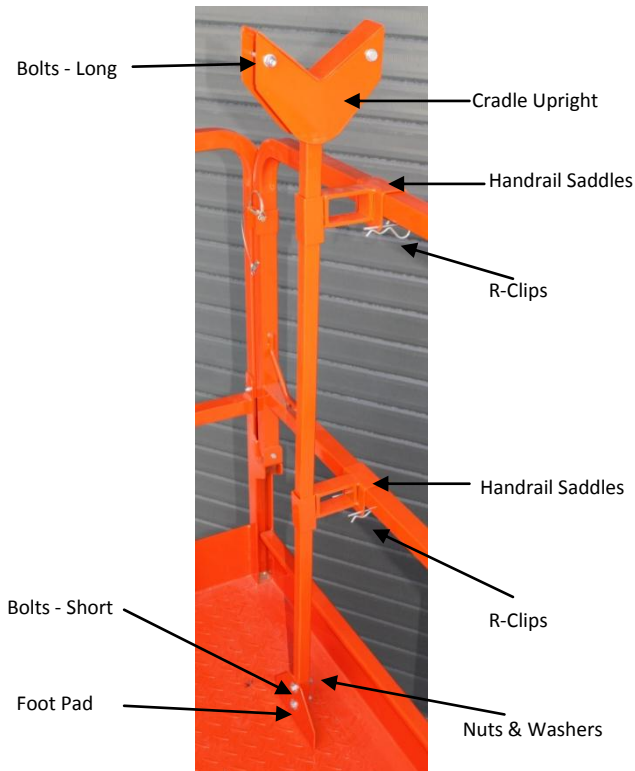

Figure 1.1: Heavy Pipe Lifter Attachment assembly
1. Assemble each attachment as per figure 1.1.